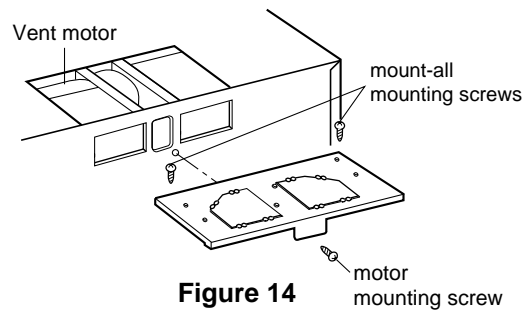

Figure 14
1. Remove one motor mounting screw and two mount-all mounting screws. Take off the mount-all from the oven. See Figure 14.
5. Reattach mount-all to microwave oven. Attach motor mounting screw and then two mount-all mounting screws. See Figure 14.